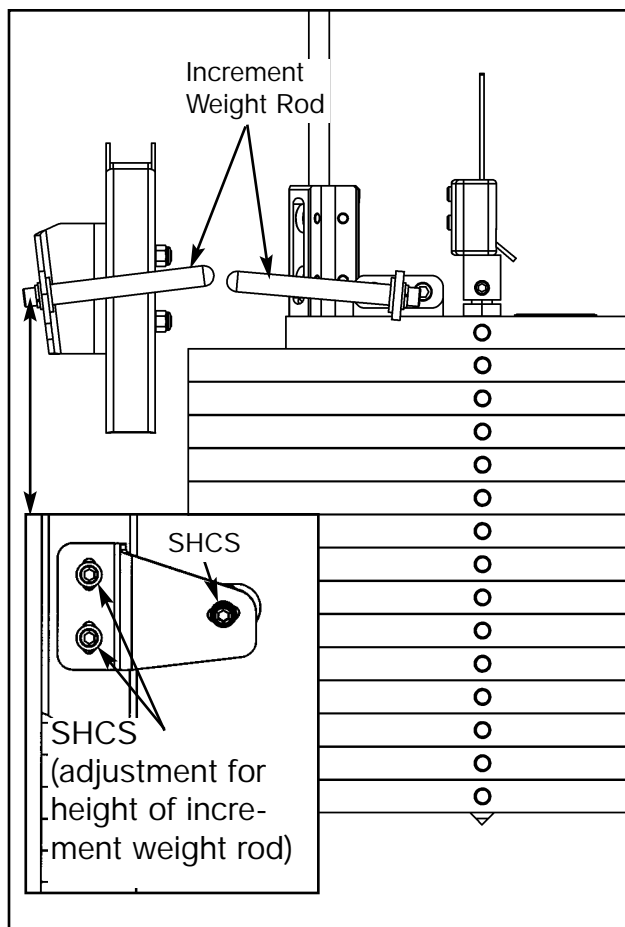

Figure 10
- C. Adjust the height of the increment weight rod (on the frame) to match the height of the increment weight rod on the top weight. Tighten each SHCS securely. See Figure 10.